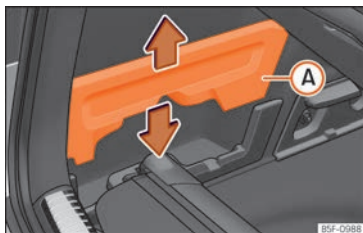

Fig. 143 In the luggage compartment: space to store the retractable shelf.
- Remove the left and right covers »» Fig. 143 **A**.